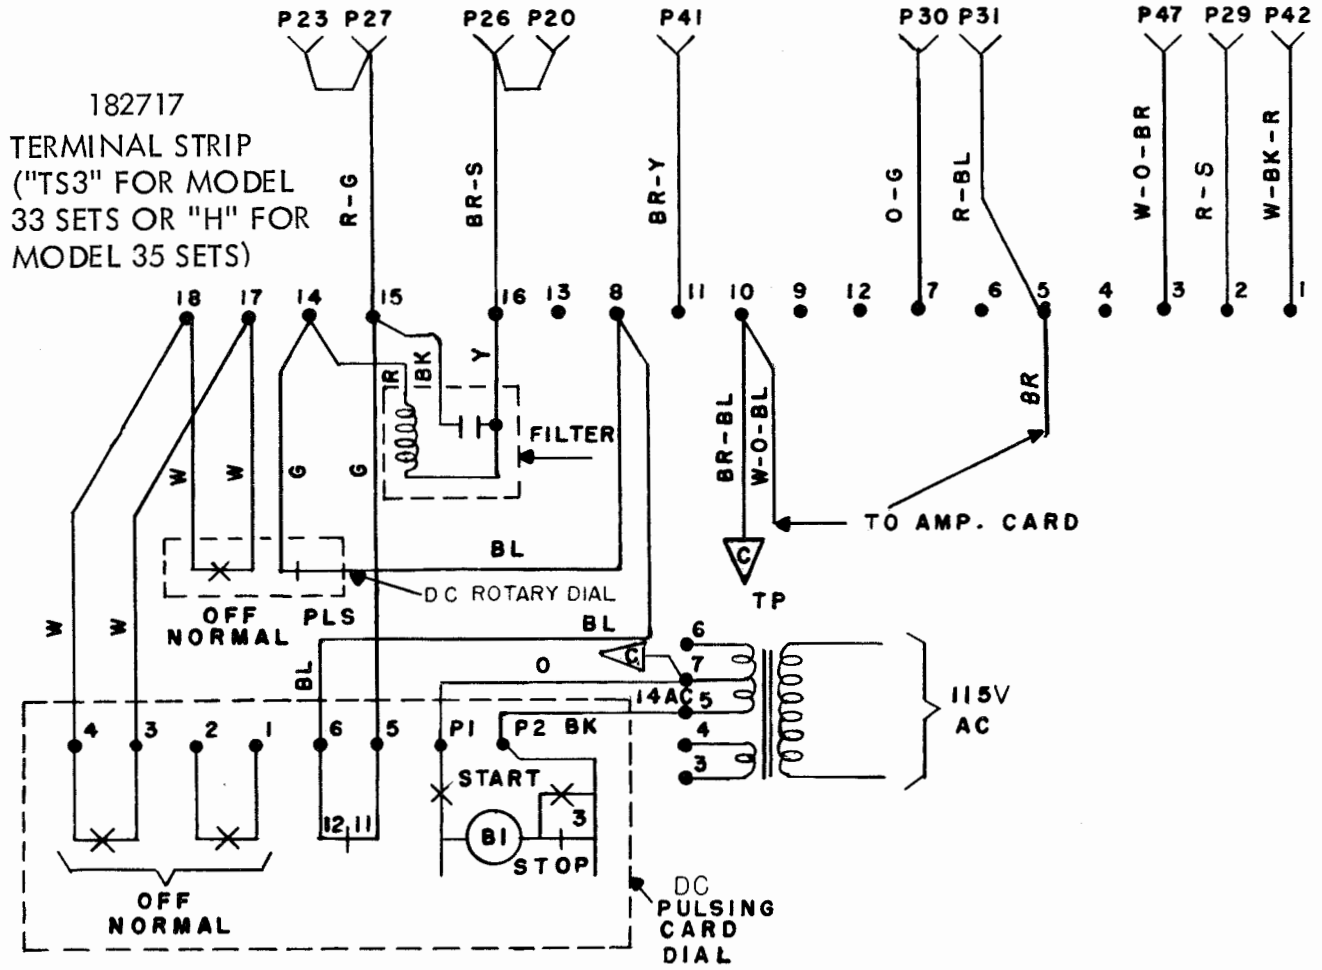

FIGURE 1
2. INSTALLATION (Figures 1 and 2)
b. INSTALLATION OF DC CARD DIAL (Figures 1 and 2)
(1) Remove the six screws that hold the "Out-of-Service" switch and control light mounting bracket (together with right and left support arms) to the 182723 Bracket and selector magnet driver bracket.
(2) Remove and retain the rotary dial and the two mounting screws. Remove the blue wire from terminal 15 on the 182717 Terminal Strip ("TS3" for Model 33 Sets or "H" for Model 35 Sets) and attach it to terminal 8.
(4) Attach the 182698 Cable Assembly to the card dial as shown on Figure 1.
(5) Make the connections for the card dial and rotary dial to the terminal strip as shown on Figure 1.